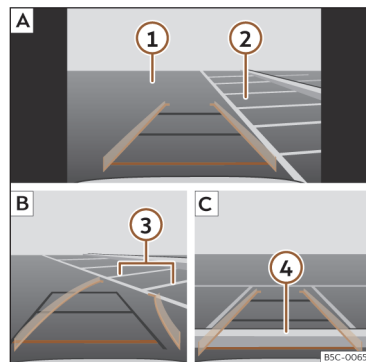

Fig. 136 Display on the infotainment system screen: parking with the reverse assistant.
Key to the >>> **Fig. 136:**
- Stop the vehicle in front of the parking space >>> **Fig. 136** **2** **A**.